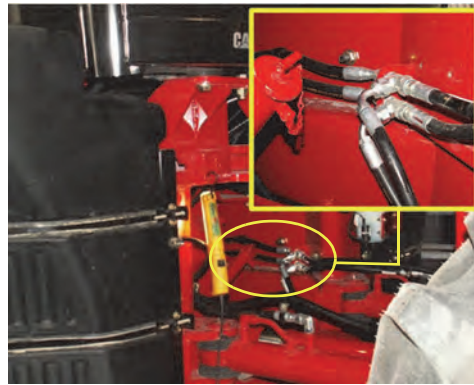

Figure 6a: Steering coupling points
- a. Locate the steering line coupling points on the right inside face of the compartment under the cab (accessed from the articulation space - Figure 6a).